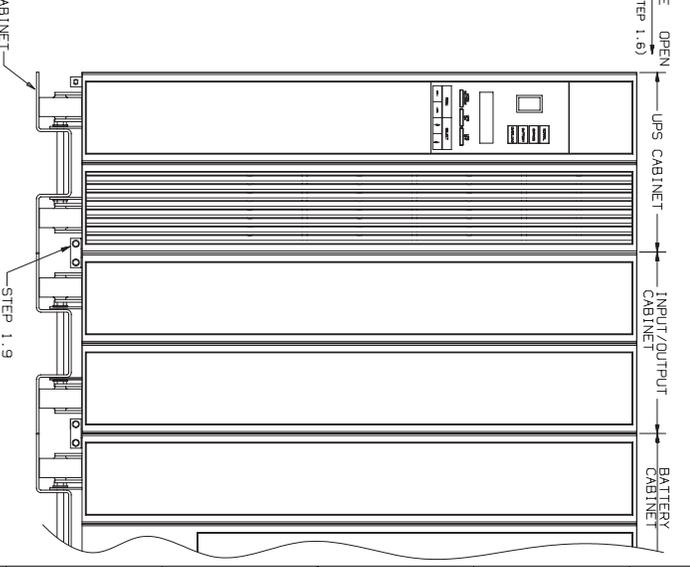

FIGURE 3
- 1.4B REMOVE COVER FROM THE UPS AND INPUT/OUTPUT CABINET AS SHOWN IN FIGURE 3. (2) SCREWS LOCATED ON THE TOP REAR OF EACH CABINET SHOULD BE REMOVED. THE COVER OF THE UPS AND INPUT/OUTPUT CABINET AS SHOWN IN FIGURE 3. REMOVE THE TOP COVERS FROM THE BATTERY AND INPUT/OUTPUT CABINETS BY REMOVING THE SCREWS LOCATED ON THE TOP REAR OF THE UNIT TO RELEASE COVER LATCH AND LIFT THE COVER OFF OF THE CABINET.